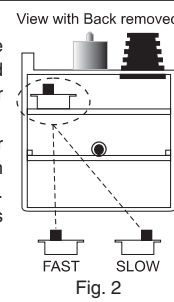

Fig. 2
The Models 77HP, 77HP/6A, 77HP/6AC, 150, and 150P Tone Test Sets are housed in high impact plastic cases and each are powered by one 9 volt battery. Standard test leads include red and black rubber insulated test clips and a snag-proof 4-conductor modular cord and plug. (Model 77HP/6A and 150P offer angled bed-of-nails clips. The Model 77HP/6AC provides angled bed-of-nails clips and braided nylon cords.) In addition to the test lead strain relief, all models provide a durable lanyard for carrying or hanging the tester. A three-position toggle switch controls the modes of operation and two (2) bi-colored Light Emitting Diodes (LEDs) display line polarity for Lines 1 and 2. The tone and continuity test functions are only applied to Line 1 using the modular plug. A tone selector switch (see figure 2) located inside each unit, may be used to select a fast or slow warble tone output.